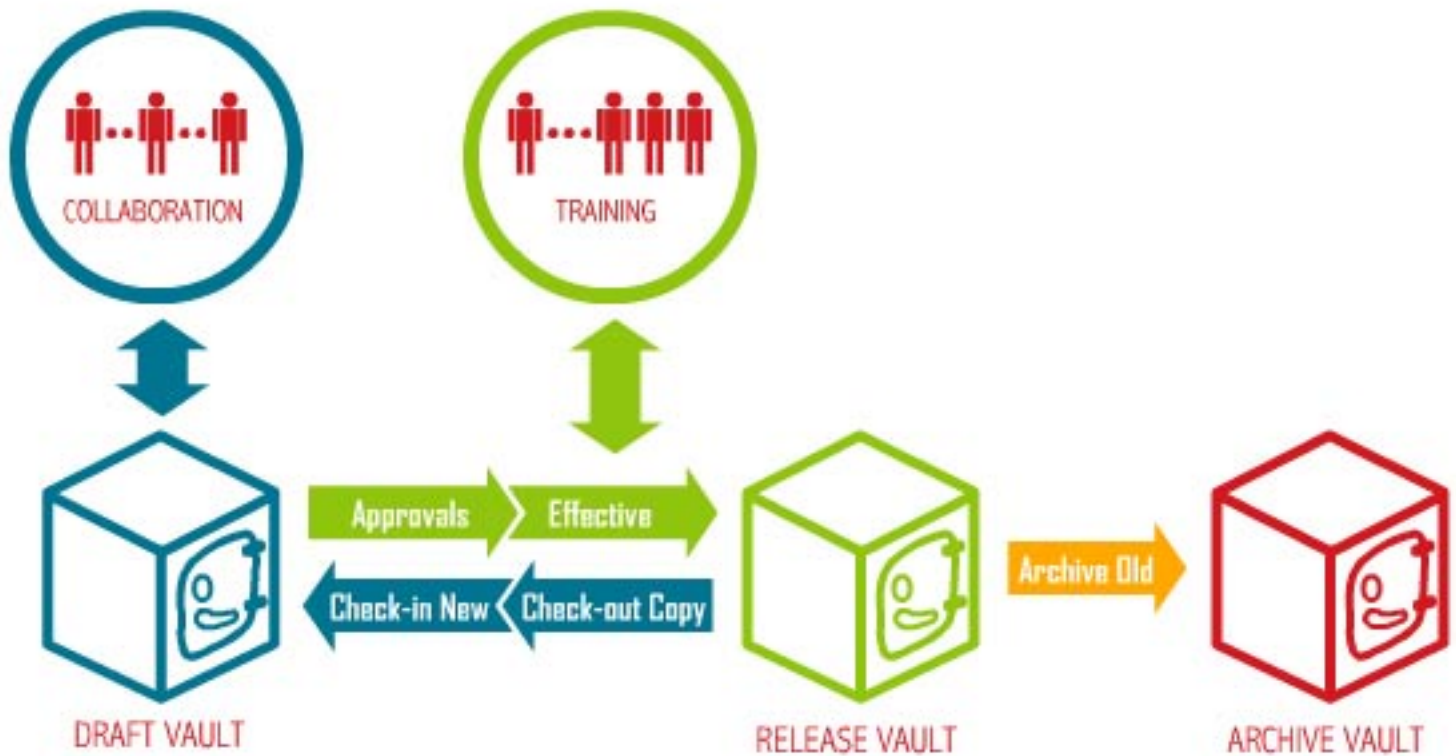

Figure 2 - Document change control lifecycle
- **Document lifecycle management** - Documents must be managed through their lifecycle statuses of Draft, Released and Archived. (See Figure 2) Lifecycles can be based on document type and need to automatically adjust document security based on lifecycle status.
- **Automatic document replacement (draft to release to archive)** - As documents are approved old versions should automatically move to an archive vault and be replaced by the newest version. This eliminates any possibility of employees using the incorrect version. (See Figure 2)
- **Automatic distribution upon approval** - After the completion of approval cycles, documents should be automatically distributed to users affected by the change and old versions are archived. (See Figure 2)